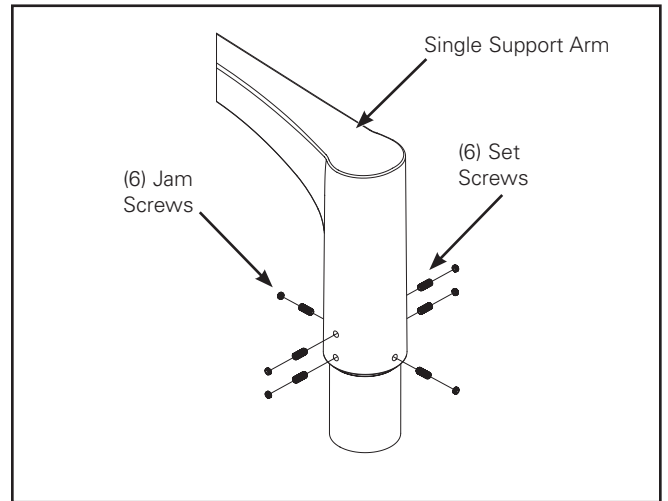

Figure 6.
7. Install six 3/8-24 x 7/8" set screws to hold arm to pole and tighten to 200 inch-lbs. (Figure 6). Use 7/8" long set screws if tenon size is 2-3/8". Use 1/2" set screws if tenon size is 3".
8. Install six 3/8-24 x 3/16" jam screws and tighten to 175 inch-lbs. (Figure 6.)